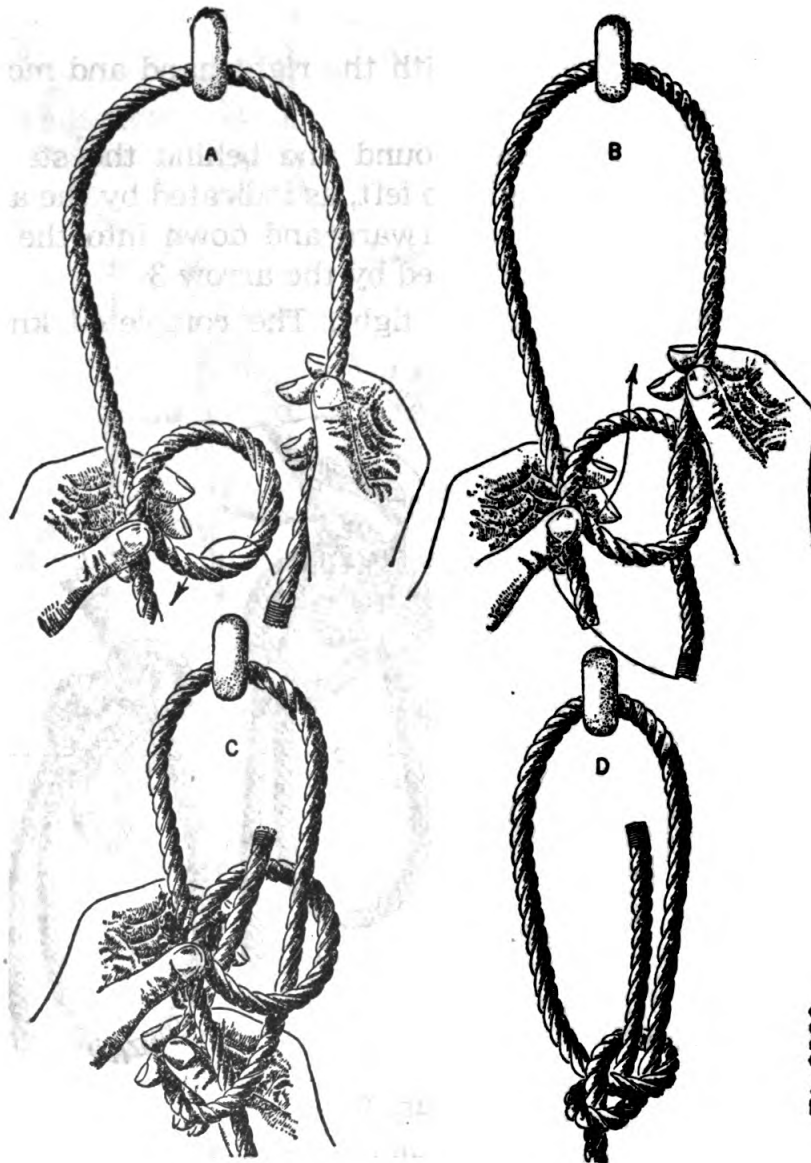

Figure 10
g. Single bowline, at the end of a rope, attached to an object.—This knot is for tying a bowline through a ring or eye. See figure 10.
(1) Throw a turn into the rope, leaving sufficient end to complete the knot, then pass the free end through the eye or around the object, holding the standing part with the turn in the left hand as shown in 10-A.
(2) Pass the free end through the turn in the standing part of the rope as illustrated in 10-B.
(3) Bring the free end from right to left, over the standing part of the rope and turn it under, passing the end through the turn as shown in 10-C.
(4) Draw all parts down tight. The completed knot is shown in figure 10-D.